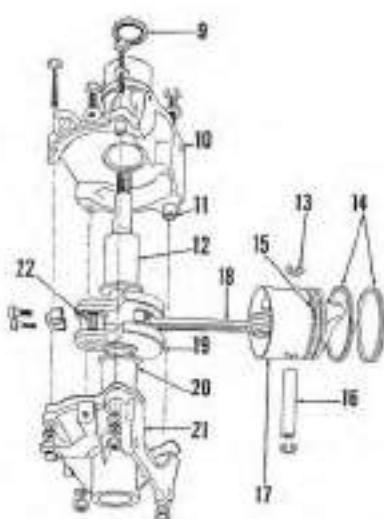

Fig. Mc10 — Exploded view of crankshaft, crankcase and associated parts. Refer also to Fig. Mc7.
Fig. Mc7—Exploded view of power head. Reed valve assembly (2), cylinder (5) and head (8) are shown detached from crankcase. Refer to Fig. Mc10 for crankcase and crankshaft assembly.
CONNECTING ROD, CRANKSHAFT AND CRANKCASE. Refer to Fig. Mc10. Before detaching connecting rod from crankshaft, make certain that rod and cap are properly marked for correct assembly.
To remove the crankshaft, remove the bolts connecting the two crankcase halves, and separate the halves. The crankshaft is supported in two renewable bronze bushings (12 & 20—Fig. Mc10). Inspect crankshaft and if crankpins and main journal surfaces are rough, scored, worn, out-of-round, or show evidence of overheating, renew the crankshaft. Renew main bushings if worn. Renew seal (9) and gaskets each time crankcase is disassembled. Crankcase halves are positively located during and after assembly by the ring-dowels (11). All friction surfaces should be lubricated during assembly.